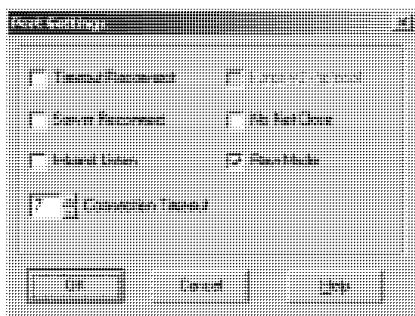

Figure 29: Port Settings Window
7. Click the **Port Settings** button. The Port Settings dialog box appears. Figure 29 shows the Port Settings dialog box and Table 6 describes its settings.